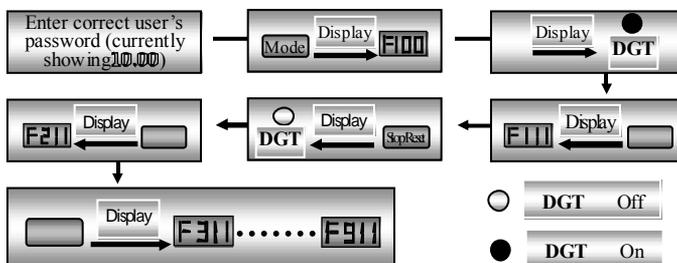

Fig 2-2 Switch over in a Code Group or between Different Code-Groups
e.g. when function code shows F111, DGT indicator will be on. Press “ ”/“ ” key, function code will keep increasing or decreasing by degrees within F100 ~ F160; press “stop/reset” key again, DGT indicator will be off. When pressing “ ”/“ ” key, function codes will change circularly among the 9 code-groups, like F211, F311...F911, F111..., Refer to Fig 2-2 (The sparkling “10.00” is indicated the corresponding target frequency values).